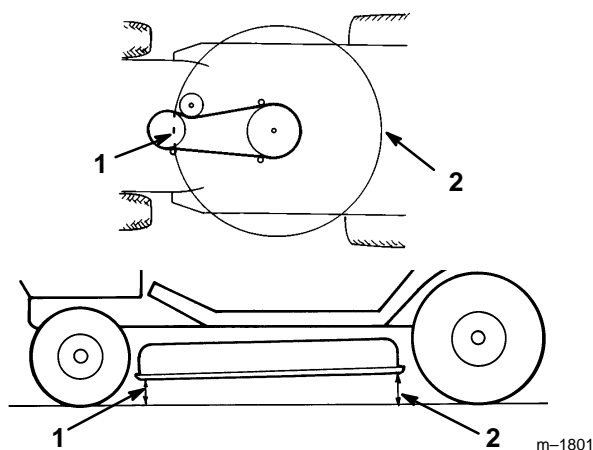

Figure 48
5. Check the front-to-rear blade slope by measuring between the bottom of the mower (front center and rear center) and the flat surface (Fig. 48). If the front of the mower is more than 5/8" (16 mm) lower than the rear of the mower, an adjustment is required; refer to steps 6–10.